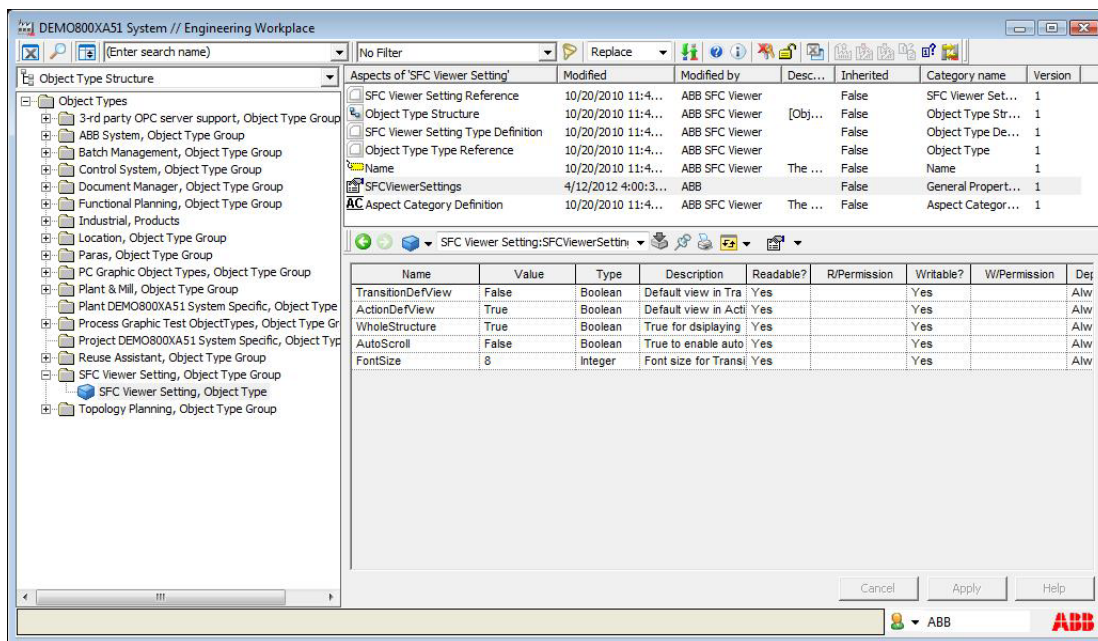

Figure 11. SFCViewerSettings aspect with ActionDefView property
1. Open **Object Type Structure** > **SFC Viewer Setting** > **SFC Viewer Settings** aspect. See Figure 11.